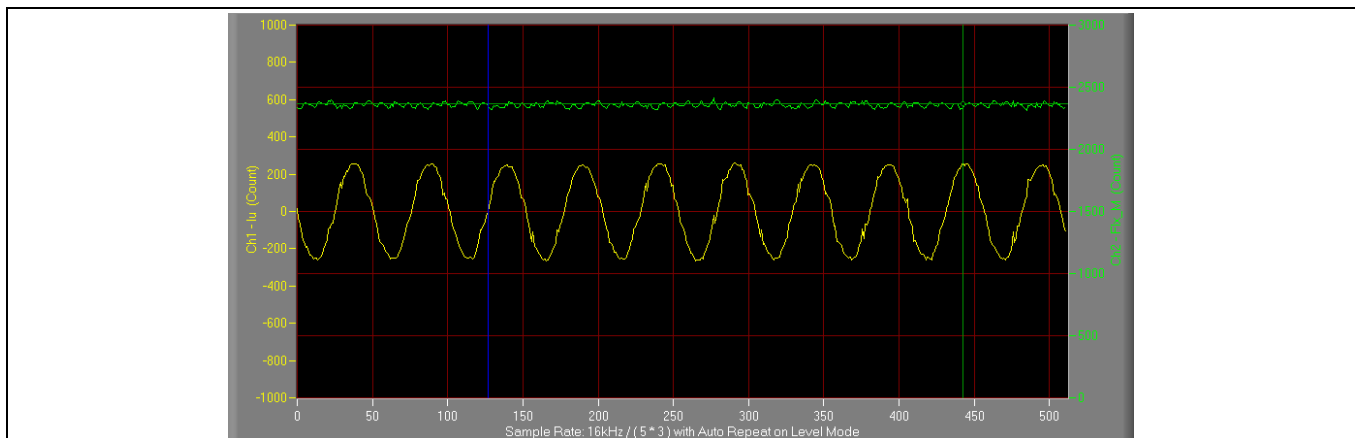

Figure 17 Trace waveform for I_u & Flx_M at 50% speed
3. Set TargetSpeed to about 50% of maximum speed, start “Iu & Flx_M” trace with “Auto Repeat on Level,” see Figure 17. Flx_M is good within the range of 2000~2500 (rated value is 2048), and must be steady and DC-like.